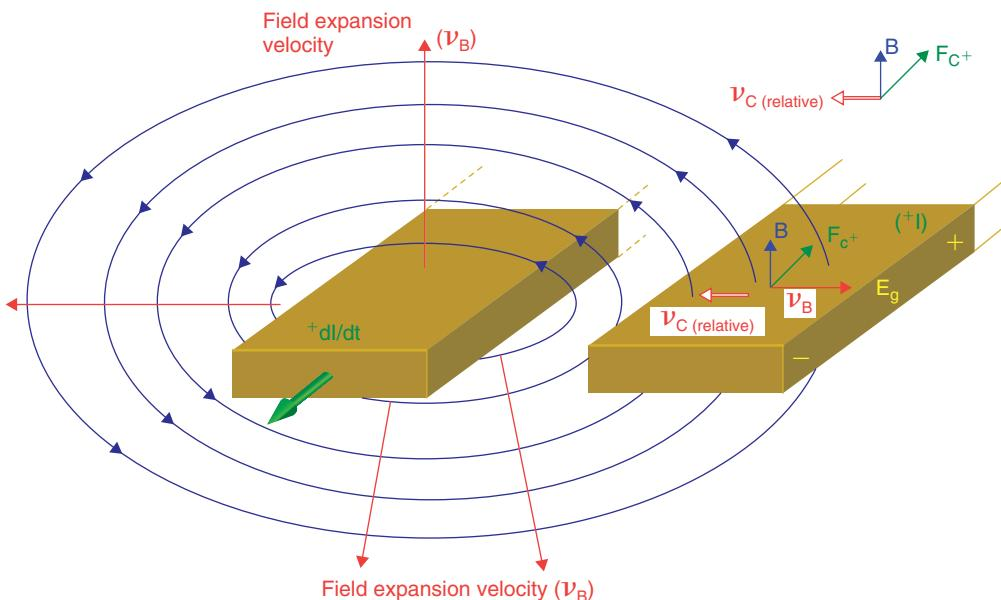
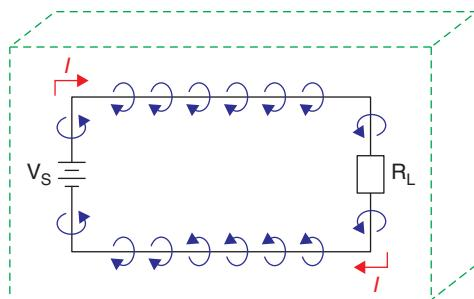

Figure 6-3 Voltage induced into adjacent trace by varying magnetic fields.
Figure 6-4 Loop inductance of a closed circuit.
If a secondary conductor is near a primary conductor, which is carrying current as shown in Fig. 6-3, some of the flux will be felt by the secondary conductor. If the current through the
When the flux that is impinging on the secondary conductor changes with respect to time, as it expands or contracts, we see again from Faraday's Law of Induction, in Eq. (3) that a voltage,  $E_g$ , is induced into the secondary conductor. Using the right-hand rule for electric generators the direction of the induced current can be determined. To use the right hand rule point the thumb in the direction of the motion of the conductor (relative to the expanding/shrinking flux— $v_C$ ), point the first finger in the direction of the  $B$  field, and the middle finger will point in the direction of the force applied to the positive charges ( $F_{C^+}$ ) and therefore the positive current flow. The resultant voltage and current are shown in Fig. 6-3. Notice that the current in the secondary conductor flows in the direction opposite that of the current in the primary conductor as a result of the induced voltage. This produces a secondary magnetic field which opposes and partially cancels the primary magnetic field (by Lenz's Law).
In Fig. 6-3 only segments of the traces were shown. Of course for current to flow through the circuit a closed path must exist, as shown in Fig. 6-4. Any conductor in the circuit that carries current will produce a magnetic field as indicated by the circular arrows.
If we look at the closed loop circuit shown in Fig. 6-4 with respect to its volume, we can see that if the circuit is physically large and makes a large loop, it will have what is referred to as high loop inductance.
The situations in Figs. 6-4, 6-5, 6-6(a), and 6-6(b) are steady-state DC circuits, but if we apply the concept in Fig. 6-3 and Eq. (3) for time-varying currents then we can see that, if the return trace on a circuit board is in close proximity to the signal trace, then the inductance of